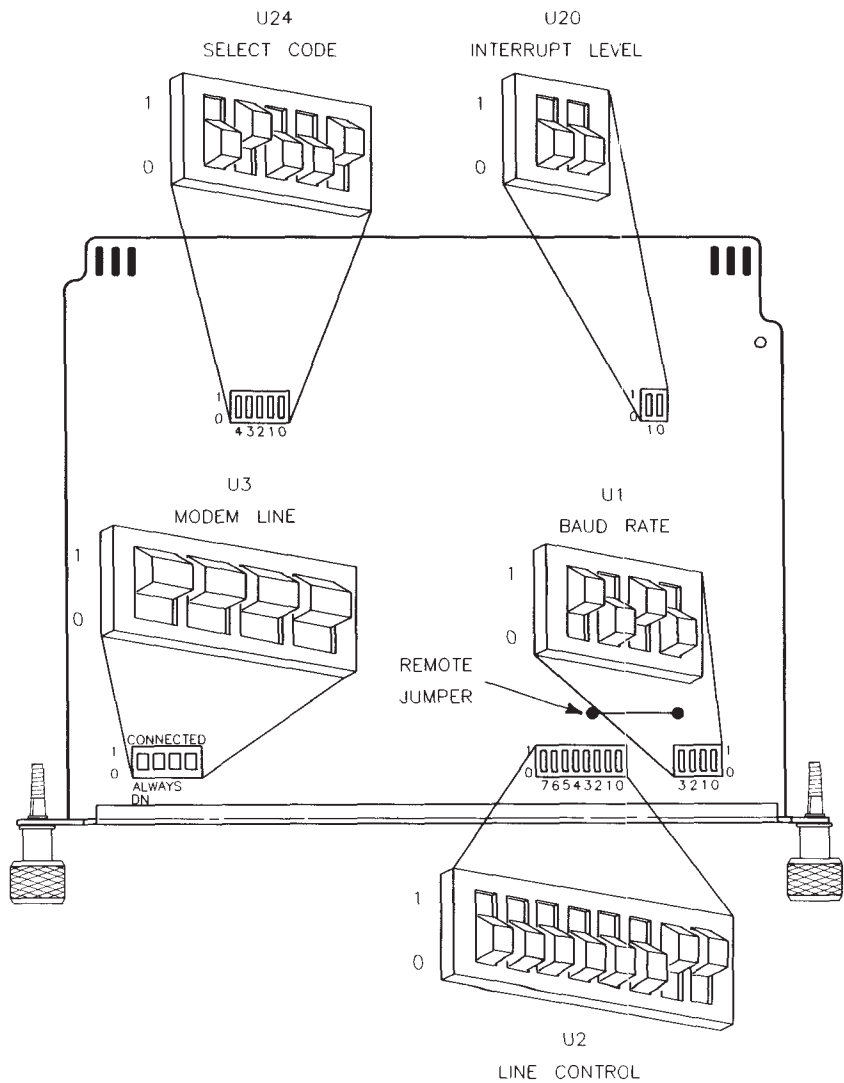

Figure 5-14.
- a. Find the set of five select code switches, labeled U24, by referring to Figure 5-14.
- a. Find the two interrupt level switches, labeled U20, by referring to Figure 5-14.
- a. Find the four baud rate switches, labeled U1, by referring to Figure 5-14.
- a. Find the group of Line Control switches, labeled U2 on the interface, by referring to Figure 5-14. Switch 3 in this group is the parity enable switch.
- a. Find the Line Control switches, labeled U2 on the interface, by referring to Figure 5-14. Switches 4 and 5 in this group determine the parity type.
- a. Find the Line Control switches, labeled U2 on the interface, by referring to Figure 5-14. Switches 6 and 7 in this group determine the handshake type.
- a. Find the Modem Line switches, labeled U3 on the interface, by referring to Figure 5-14.
- If connecting a modem, HP 2686A *LaserJet* printer, or uucp to this interface, set these switches to the “Connected” position as shown in Figure 5-14.
- If connecting a terminal or bar code reader, set these switches to the “Always on” position, which is *opposite* that shown in Figure 5-14.
- a. Find the remote keyboard jumper by referring to Figure 5-14.